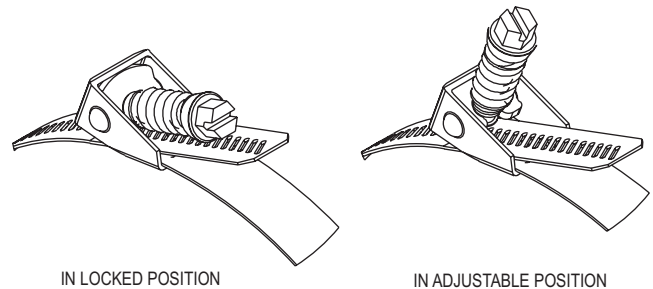

Figure 1
3. Uncoil strap by lifting the screw head up like shown in Figure 1 and pressing on the end of the strap.
8. Lower the screw head to lock the strap in place as shown in Figure 1.